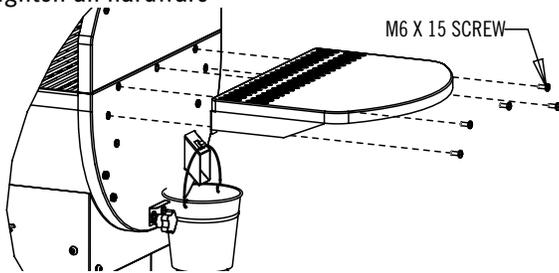

FIG. 5
1. Install hopper handle as shown in Fig. 5.
1. Install shelf as shown in Fig 5.